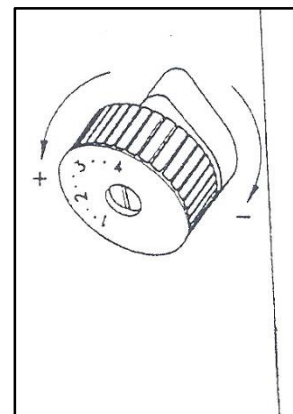

Figure 7.12
As shown in Fig. 7.12 the dial (1) increases stitch size when turned anti-clockwise and reduces the stitch size when turned clockwise.